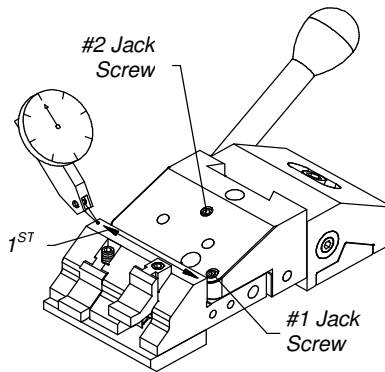

Figure 7
STEP 5. (A). Place the indicator ball on the VV01 at the corner nearest the pivot ball of the TD01 as shown in Fig. 7. **(B).** Zero the indicator. **(C).** Move the indicator to the other end of the first-axis on the vertical vise as shown. **(D).** Turn the #1 jackscrew until the indicator returns to the zero set position. The first-axis is trued.